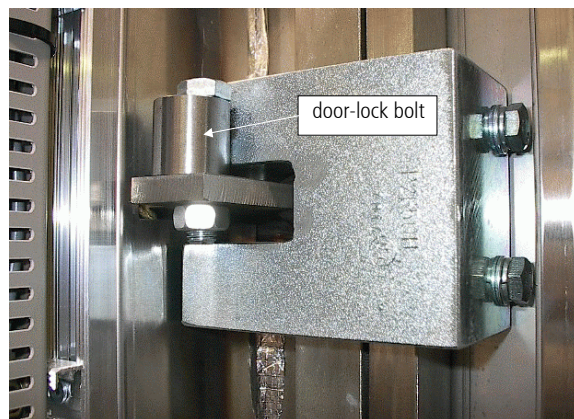

Figure 3-6: door lock bolt for transportation
- Remove door locking bolts and carefully open slide doors (refer to Figure 3-6).